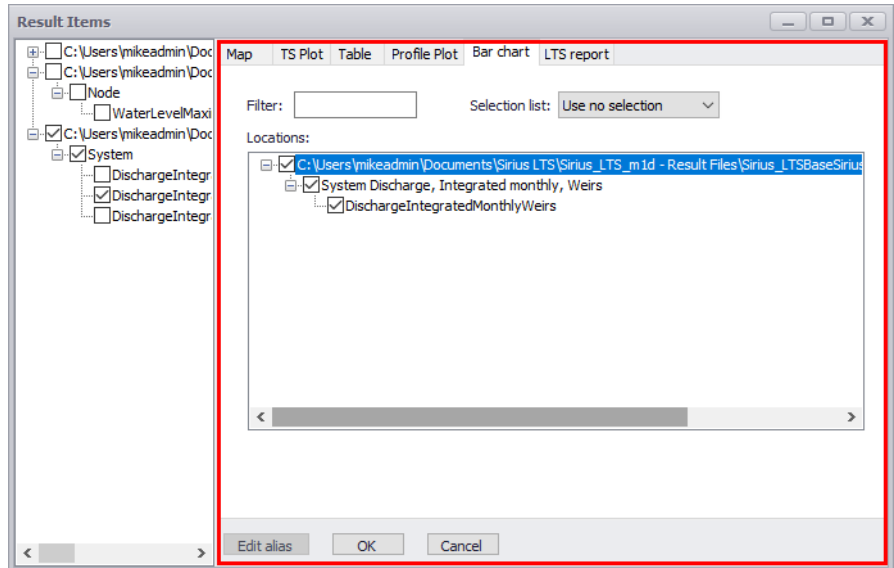

Figure 20.64 The Bar Chart tab on the Result Items dialog
- Access the 'Bar Chart' tab on the 'Result Items' dialog (Figure 20.64).
- Select the items and locations which shall be plotted on a bar chart (Figure 20.64). Note that it is not possible to customize data series labels (i.e. Edit alias) for bar charts, nor is it possible to edit existing bar charts.